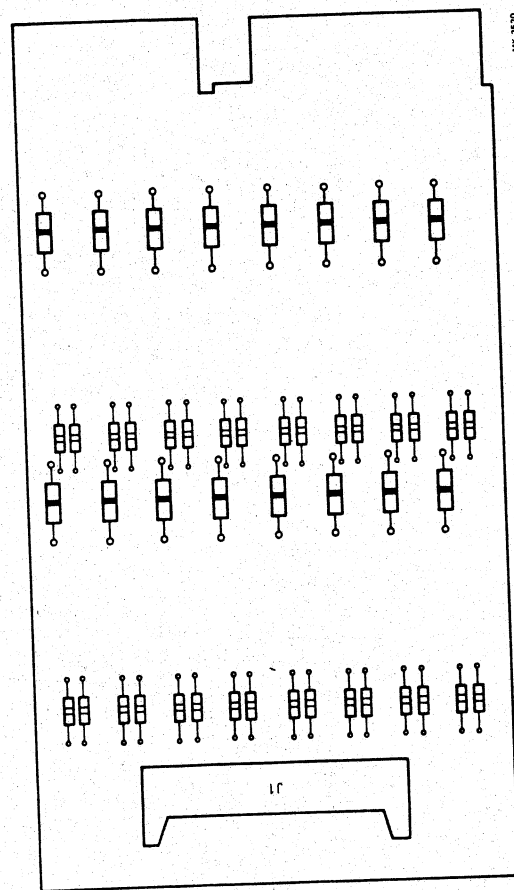

Figure 3-11 CMRTI-11 Signal Conditioning Paddleboard (M9052)
- CMRTI-11 signal conditioning paddleboard for the G5153 (see Figure 3-11).